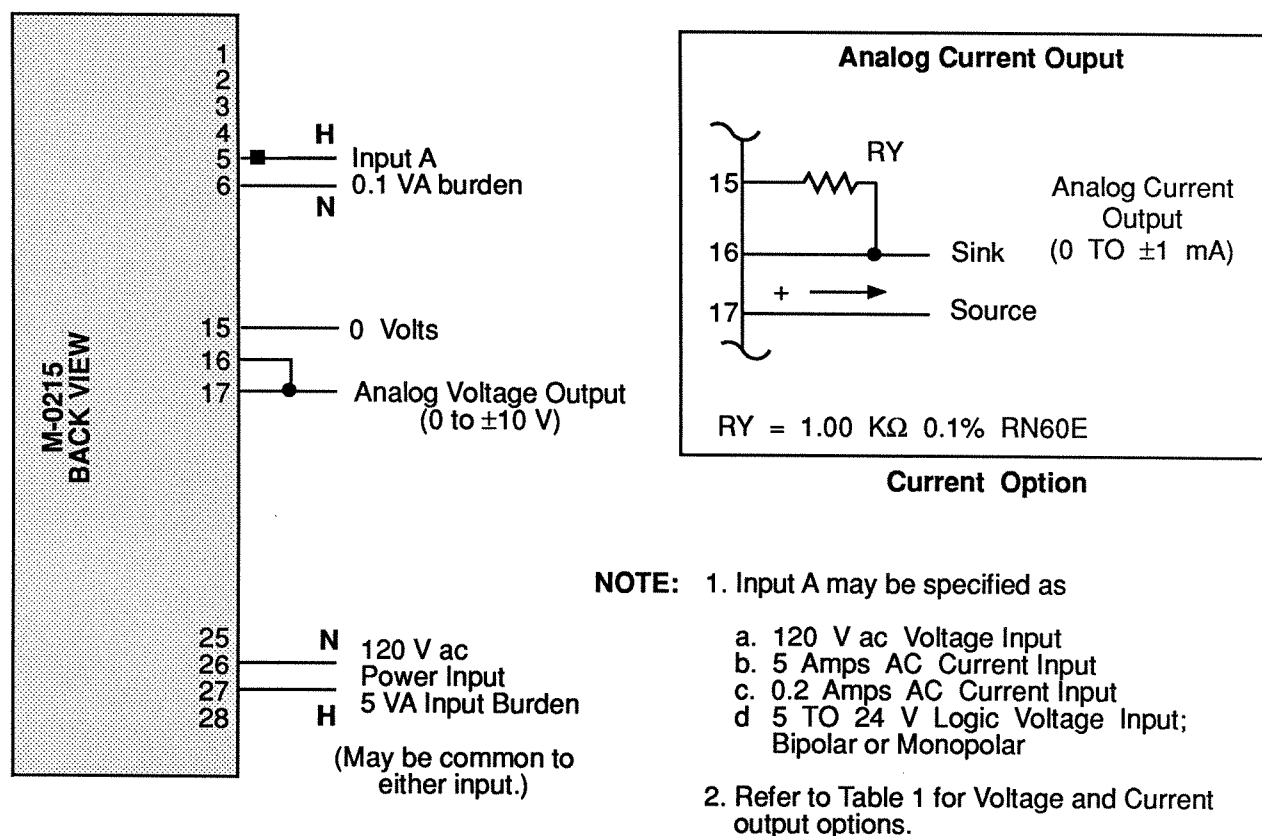

FIGURE 2 External Connections
The M-0215 output circuit is designed to be either a voltage or a current output. The output type is determined by the connection made to the rear terminal block (See Figure 2). The purchaser must specify either the voltage option or the current option for the frequency deviation when the M-0215 is ordered. This is necessary because the load driving capability of the output circuit and the scale factor may depend on the option specified. The option page in the front of this manual is provided for this purpose. Table 1 below refers to the possible voltage and current outputs available with either the voltage or the current option.
*NOTE: See Figure 2 for Terminal Block Connections.
Refer to the Figure 2 below for the M-0215 external connections.